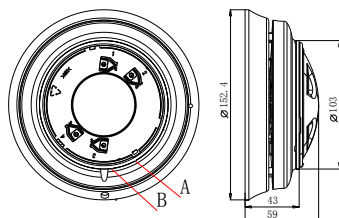

Fig. 1
Terminals of the flashing beacon base are shown in Fig. 1.
- If the flashing beacon base comes with a cover, align the orientation mark on the cover to mark A of the flashing beacon base (Fig.1), and rotate the cover clockwise to B. If it's used as detector base, remove the cover and install the detector on it with the same method.